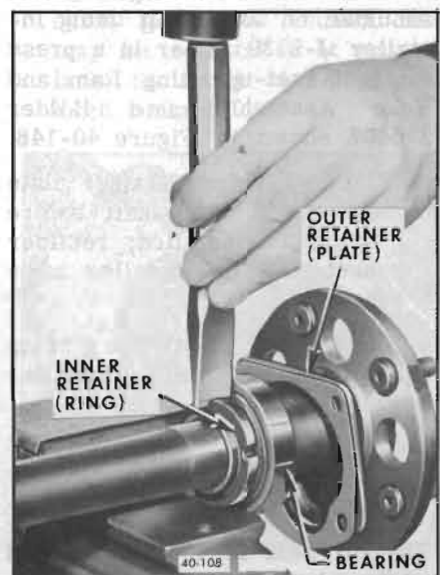

Figure 40-146—Removing Axle Shaft Bearing Retainer
1. Notch bearing retaining ring in 3 or 4 places with a chisel. See Figure 40-146. Retaining ring will expand so that it can be slipped off.